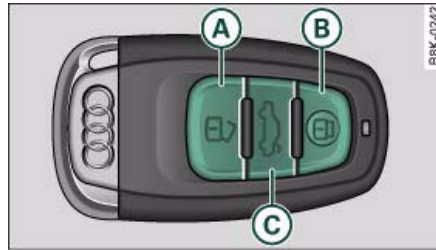

Fig. 38 Remote control key: Control buttons
- Press the button to unlock the vehicle ⇒ fig. 38.
If you select "Locking boot lid/tailgate" **on**, you can no longer open the luggage compartment using the handle on the boot lid ⇒ *page 52*, fig. 46. In this case, you can open the boot lid using the button on the remote control key ⇒ *page 47*, fig. 38 or the unlock switch on the driver's door ⇒ *page 51*, fig. 45.